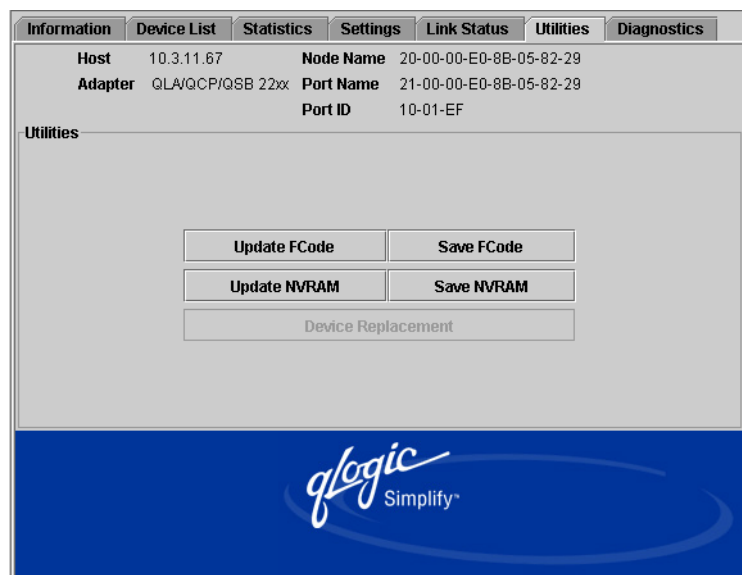

Figure 11-8. Utilities Tabbed Page (Solaris SPARC)
2. Click the **Utilities** tab. The **Utilities** tabbed page displays (see figure 11-8).